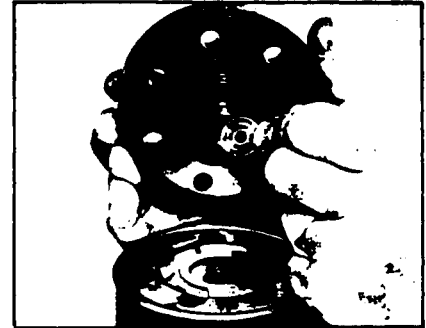

Figure 6
- 5. Remove drive link washer (3) from the commutator (6) or from the end cover if it was removed with the end cover. Replace washer if it shows signs of wear, spalling, nicks or is bent or has other deformation that could interfere with commutator or drive link rotation. SEE FIGURE 6.